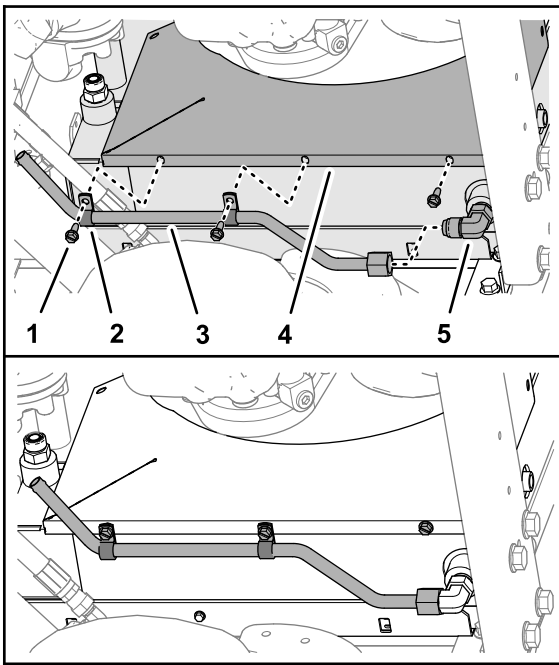

Figure 34
2. Assemble 2 support clamps to the oil-inlet tube (Figure 34).
3. Thread the swivel nut of the tube onto the 90° fitting (Figure 34).
4. Secure the clamps, tube, and bottom shroud to the radiator/oil cooler (Figure 34) with 3 self-tapping screws (1/4 x 3/4 inch).